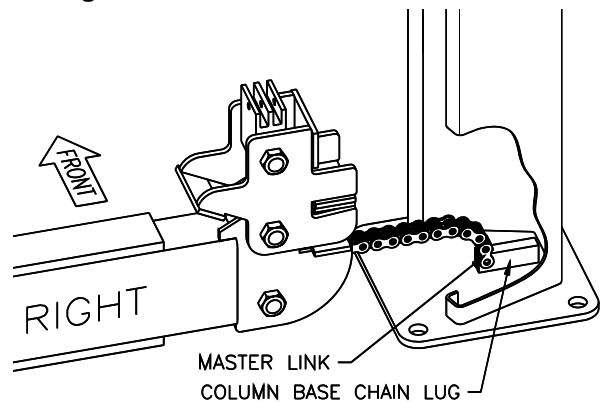
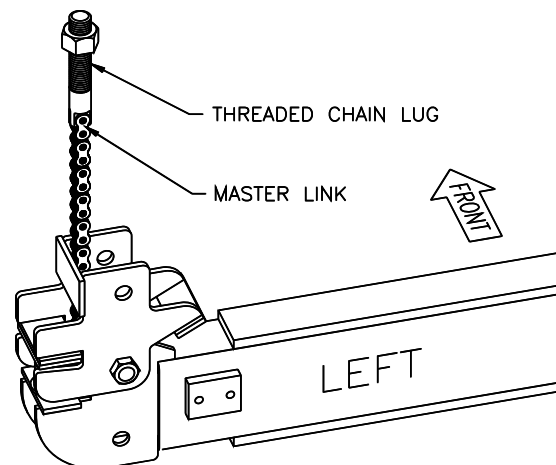

Fig 9 – Synchronizer Chain – Right Side
Fig 10 – Synchronizer Chain – Left Side
- 14) Route one synchronizer chain through each crossbeam, over right sheave and under left sheave. Use a master link to attach the **right** end of each synchronizer chain to the right side column base chain lug, **Fig 9**. Again, using a master link, attach the **left** end of each synchronizer chain to a threaded chain lug, **Fig 10**.